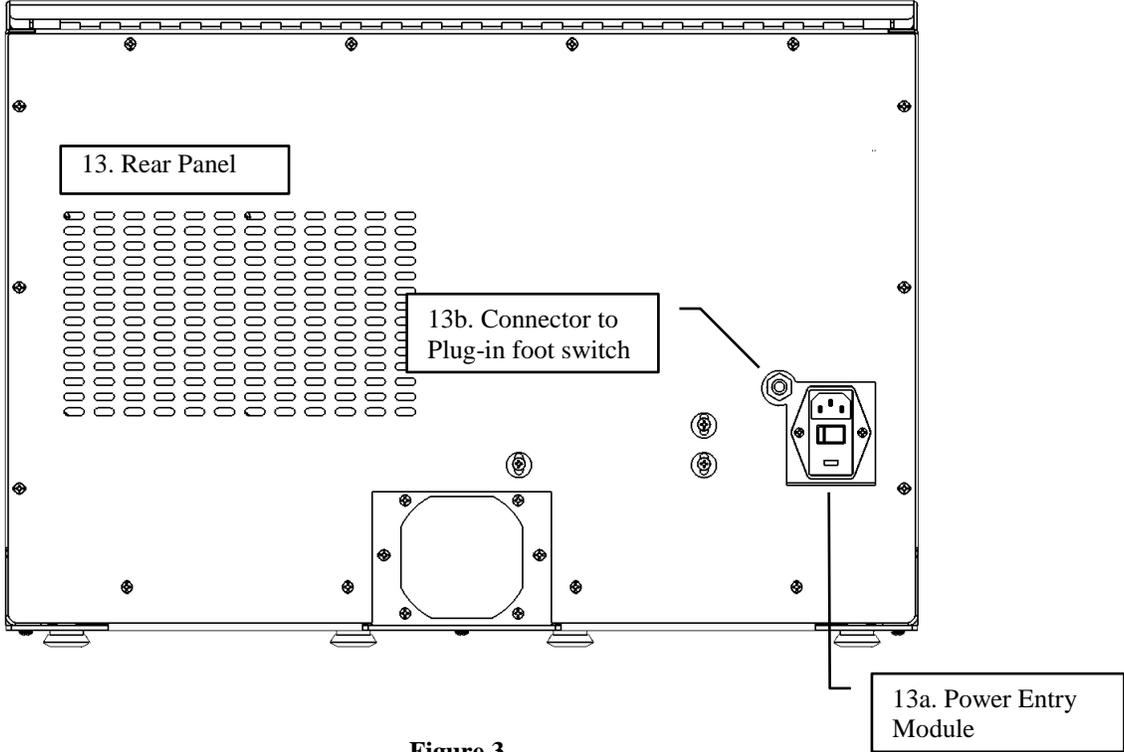

Figure 3
- 13. Rear Panel:** The following connectors are located on the rear panel of the Hot Module as shown Figure 3 on Page 8.